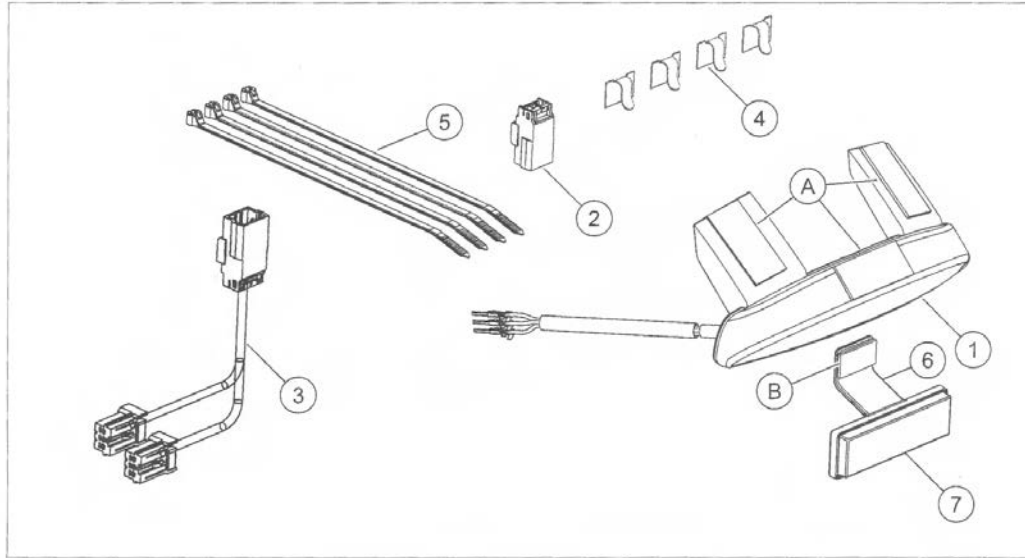

Figure 3. Service Parts: Fender Edge Light Kit
5. See Figure 3. Remove the protective liner (A) from the three adhesive pads on the fender edge light (1).
4. See Figure 3. Insert the wires and terminals from the light assembly harness into the pin housing (2) from the kit:
6. Secure the interconnect harness in the seat pan area as necessary with cable straps (5).